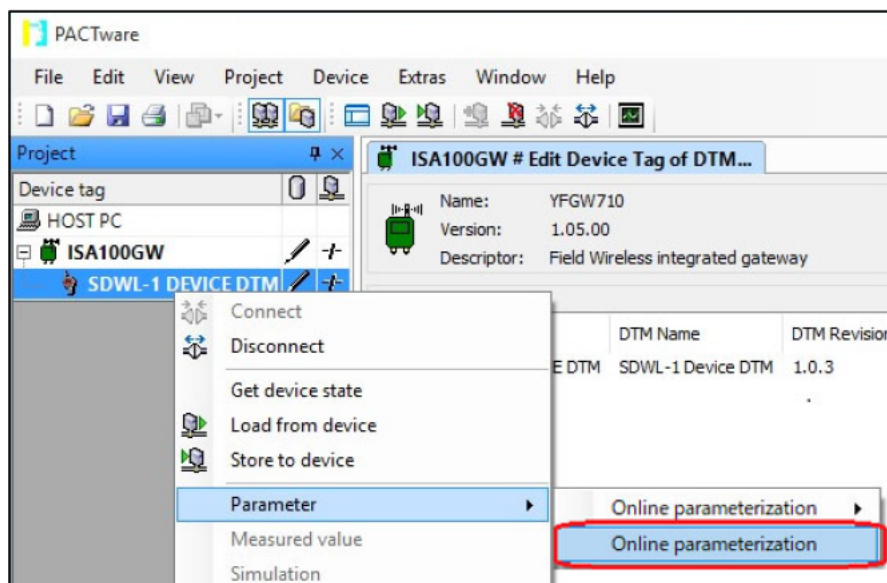

Figure 5-34 Selecting “Online parameterization” menu
- ⑬ Right-click the SDWL-1 (tag name) in the tree menu on the left side of the main window, then select “Online parameterization”. (Figure 5-34)